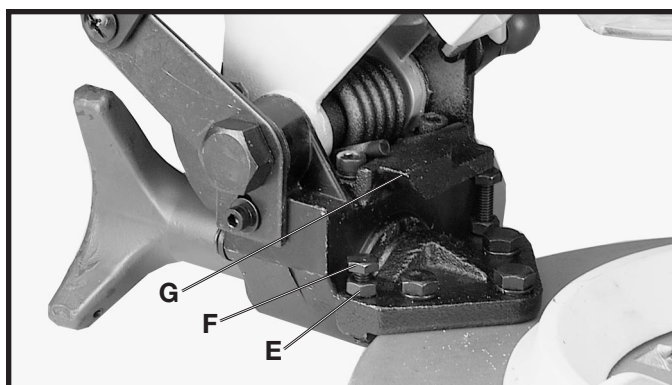

Fig. 29
6. If an adjustment is necessary, loosen locknut (E) Fig. 29, and turn screw (F) until screw (F) contacts casting (G) when blade is 45 degrees to the table. Then tighten locknut (E).